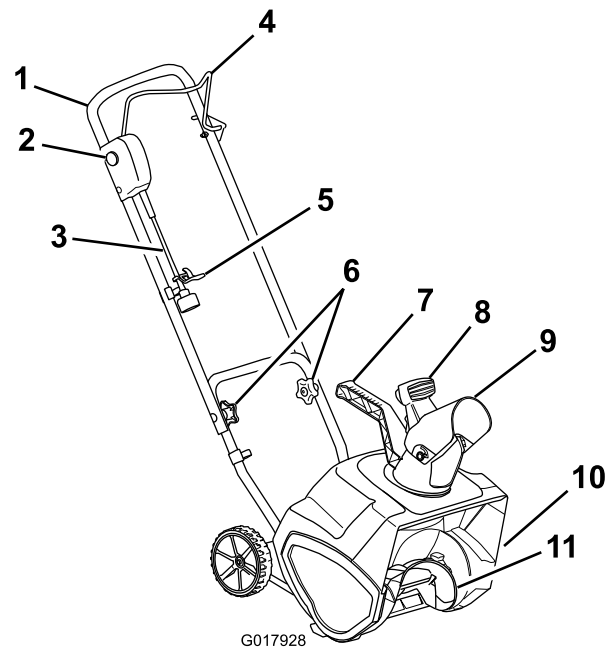

**Figure 2**
4. Attach the cord guide to the handle (Figure 2).